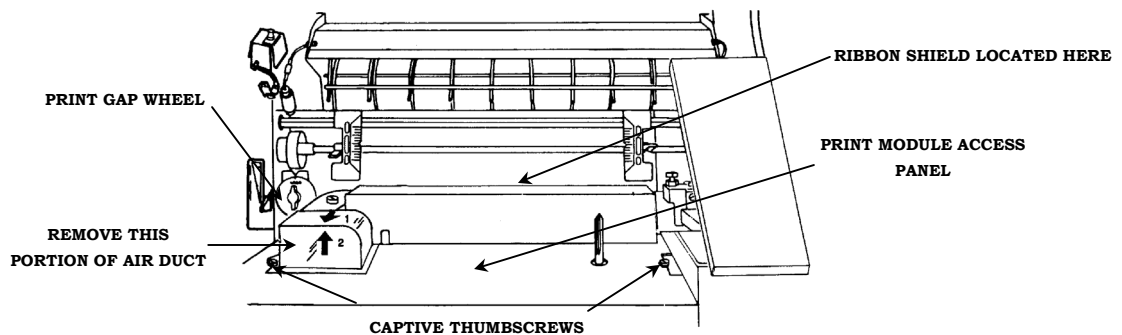

Figure 7-1 Removing Print Module Access Panel
5. Loosen the two thumbscrews and remove the print module access panel. See Figure 7-1.